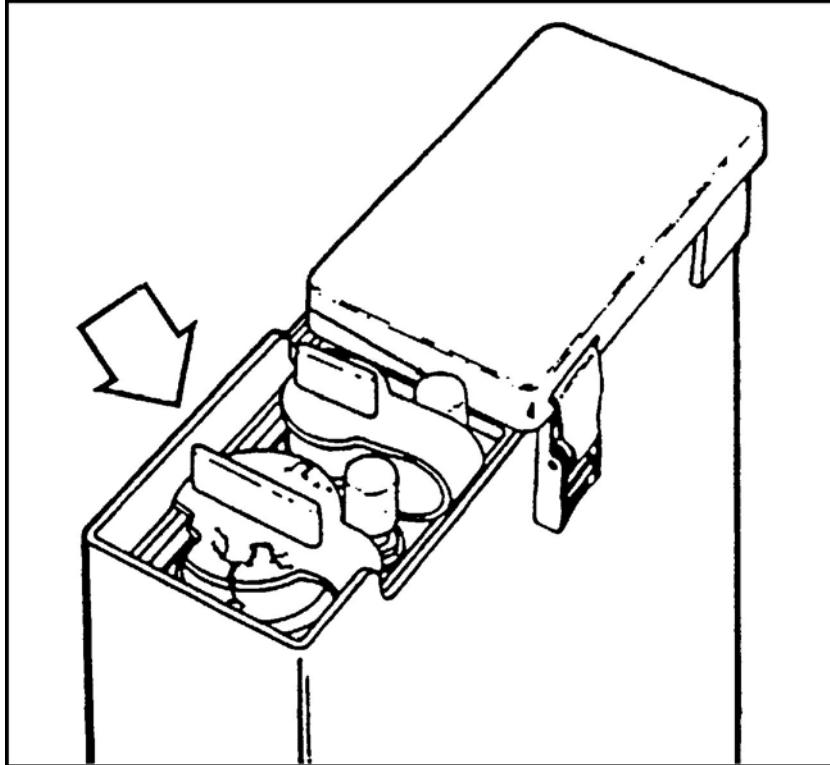

Figure 2. Unserviceable cable connector rubber caps.
h. Inspect the bottom of the MBC. Make sure the rubber caps over the connector are serviceable (Figure 2).